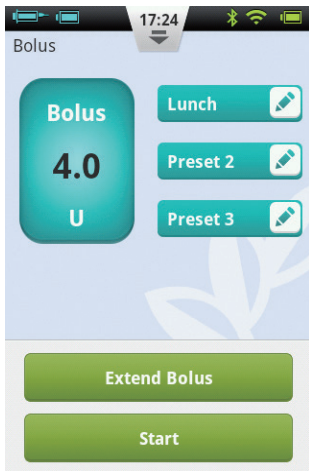

Figure 47
- 2 Using a Preset: If a Preset is already programmed, press the left area of the button and the value will appear in the bolus amount to the far left. A small arrow will appear that links the preset that has been chosen to the bolus amount (Figure 47).